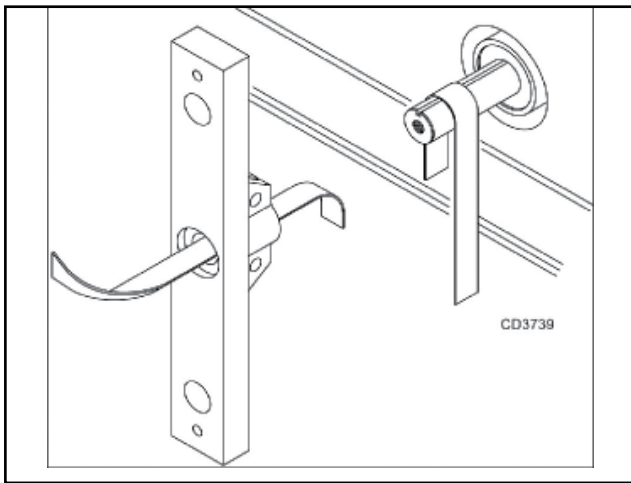

Figure 19
1. Using emery cloth (220 or finer), remove surface rust, Loctite® and foreign material from hub, splined gearbox, vertical shaft, and crossbar as shown in Figure 19.